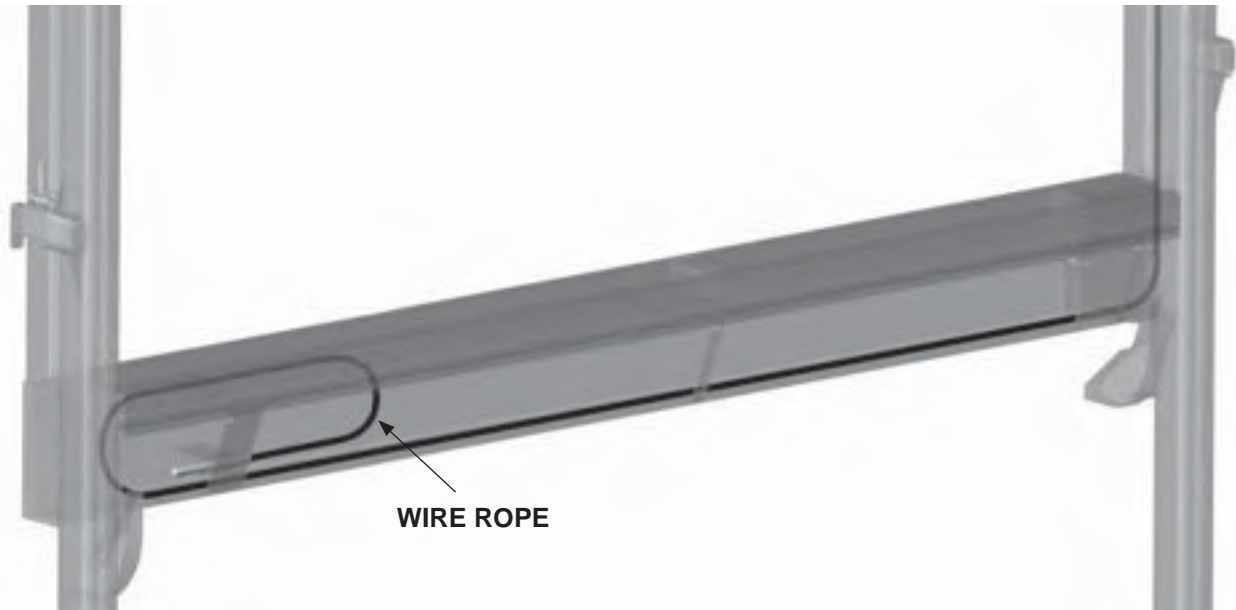

FIG. 24-2
5. For the longer wire rope installation on the right hand column, use the same procedure used for the left hand column. Pull approximately 11 to 12 feet of wire rope into the main frame assembly. See **FIG. 24-2**.